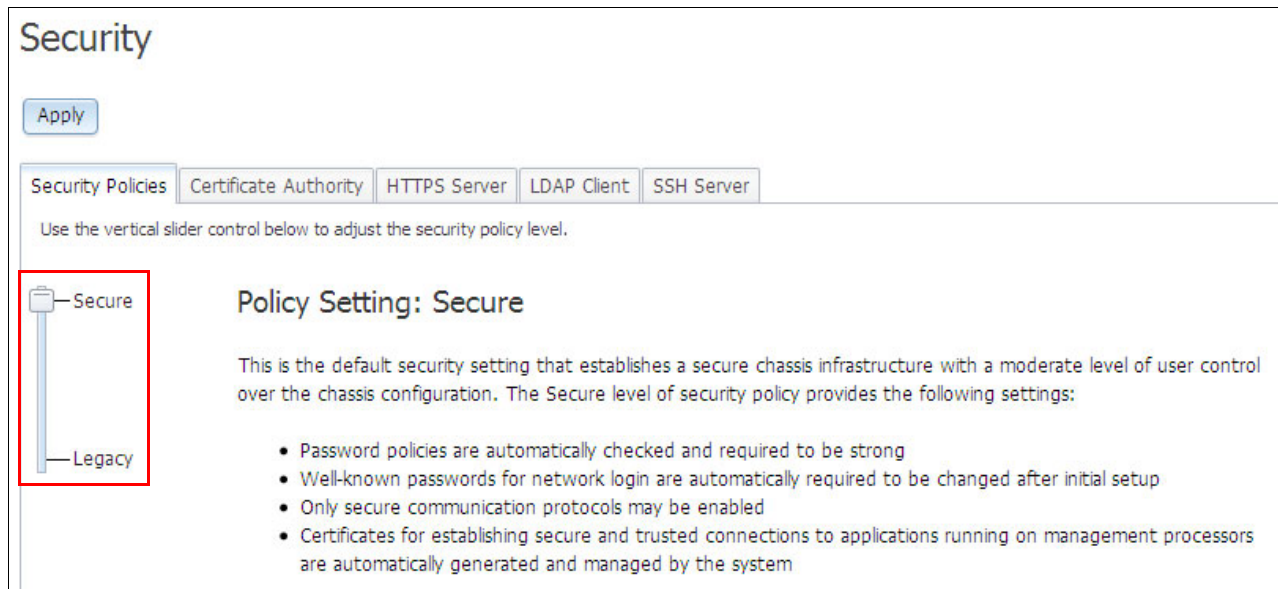

Figure 4-30 Security window
2. In the Security Policies window, use the slider bar to select **Secure**, and click **Apply** as shown in Figure 4-30.